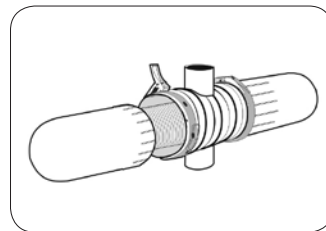

Figure 11
- Place the filter cover on the filter body and secure it with a slight clockwise rotation. Reposition the clamp onto the cover and close with the lever and secure the safety pin (Figures 11 and 12).